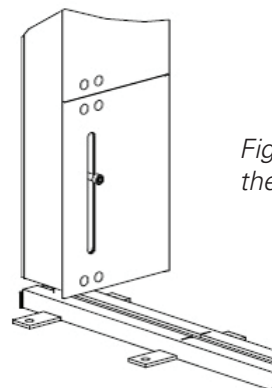

Figure 6: Cap screw on the Pocket retained post
3. Loosen cap screw on the back of pocket retained post. Lift the lock rod up and bring grille back into pocket. Slide the lock rod into the guide bracket, adjust the height so it catches the bracket and clears the floor then tighten the cap screw. Refer to **Figure 6**.